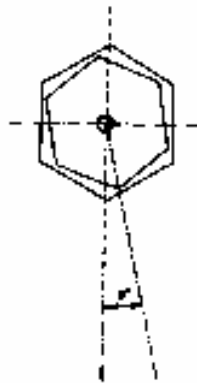

Fig. 7.6
- 2. *The angular position of the hexagonal opening and the angular position of the hexagonal key do not mate: The walls of the hexagonal key are not parallel to the hexagonal socket (see Fig. 7.6).***
It is assumed the walls of the hexagonal key are parallel to the hexagonal socket (see Point 2 and Fig. 7.6).